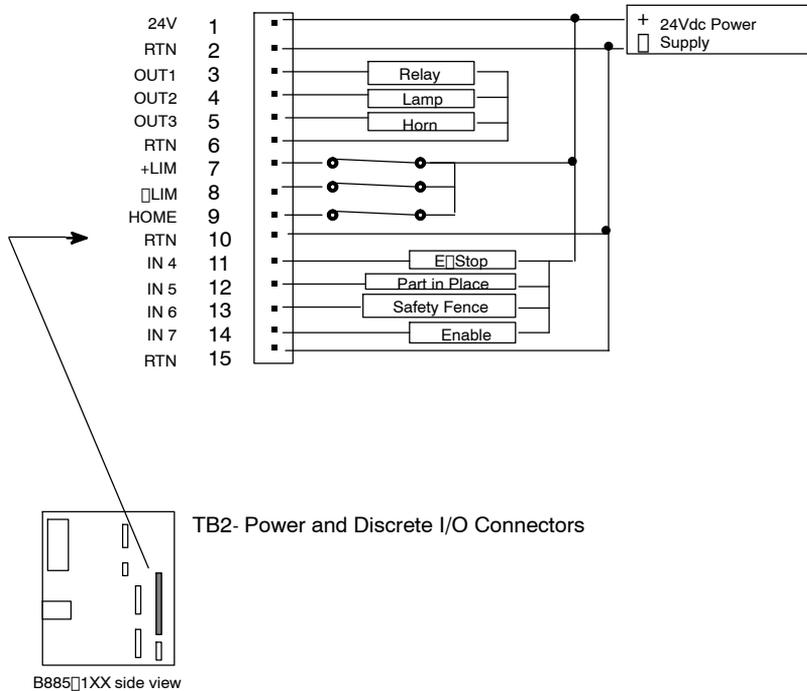

Figure 8 TB2 Typical Wiring
Step 2 Wire the 24 Vdc power supply output to the TB2 connector (pins 1 and 2) of the B885□1XX. Refer to Figure 8.